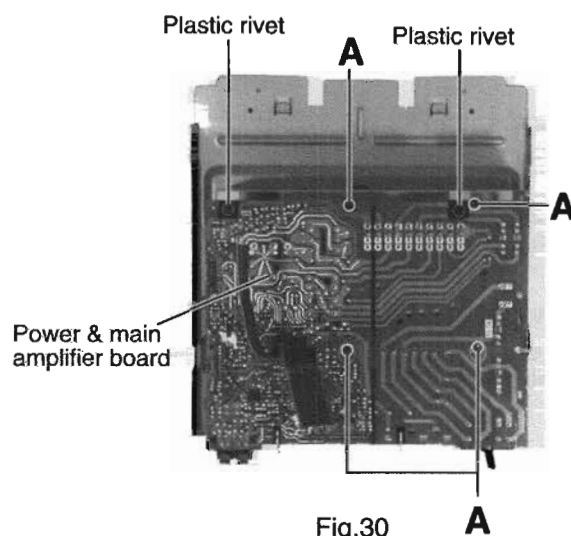

Fig.30
■ Removing the power & main amplifier board (See Fig.30 and 31)